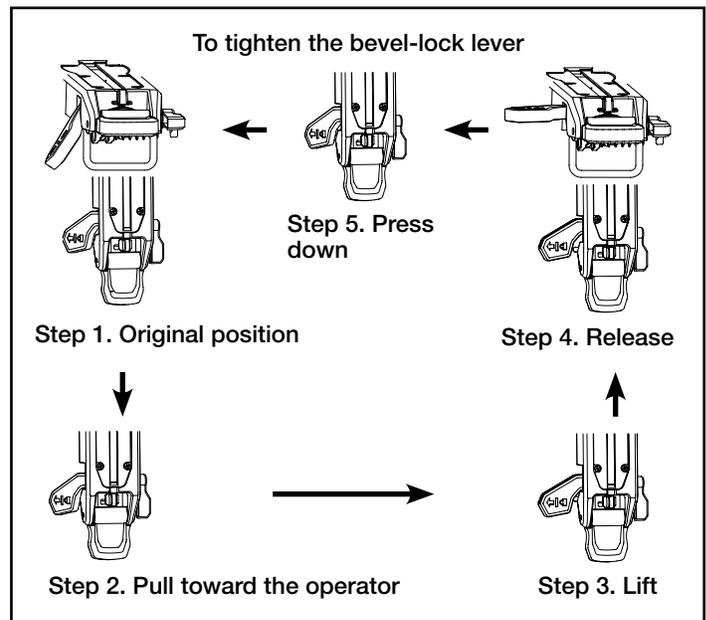

Fig. 16b
3. To tighten the bevel-lock lever (Fig. 16b), hold the lever in the lower (tight) position and pull it towards the operator, then lift the bevel-lock lever and release it. The bevel-lock lever will return to the forward position automatically. Several cycles may be required.